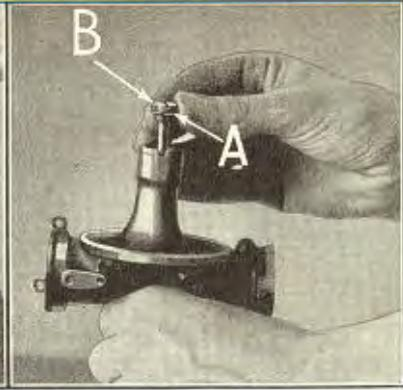

Fig. 433
- 882 To assemble carburetor position spray nozzle gasket (See "A" Fig. 433) over end of spray nozzle "B" and run down spray nozzle into mixer chamber with a spray nozzle wrench.